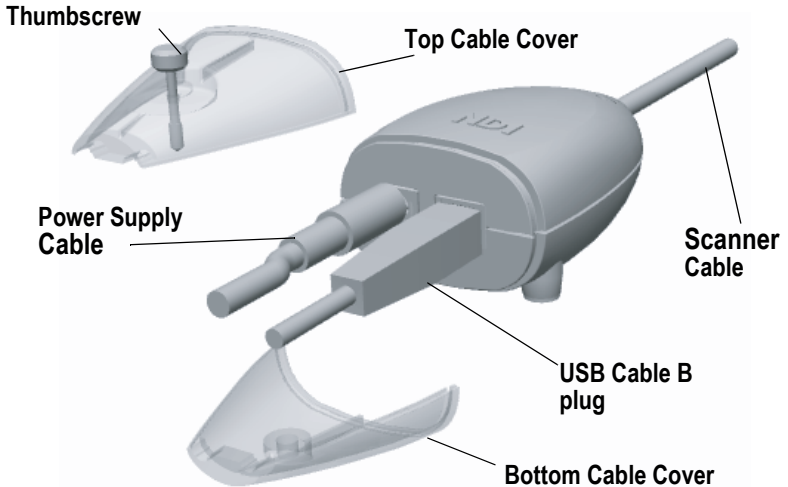

Figure 2-2 Connecting Cables to the USB Adapter
2. Connect the USB cable B plug and power supply cable to the USB adapter. Locate the top and bottom cable covers in place on the USB adapter. Secure the covers with the thumbscrew, see Figure 2-2.